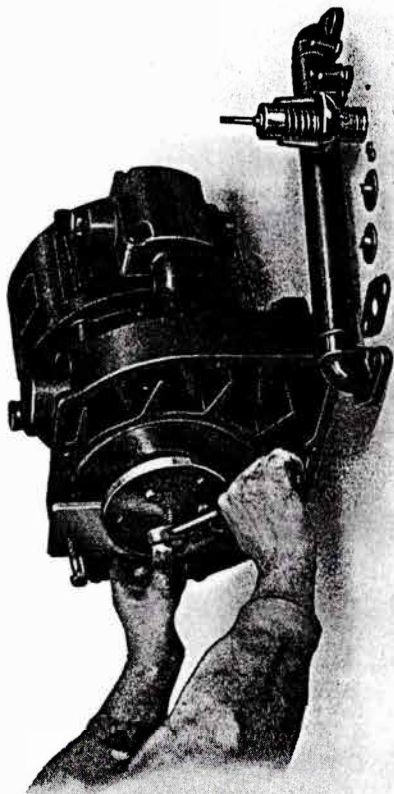

FIG. 5.
screw against the shaft centre, and give the head a sharp blow with a copper hammer. The bucket wheel may then be removed. (See Fig. 5.) Remove the key (2368P) from the shaft.